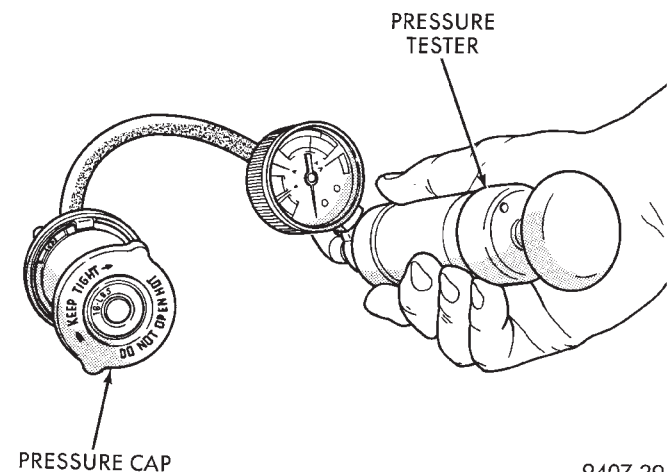

Fig. 14 Pressure Testing Radiator Cap
(3) Disconnect the hydraulic line from the weld stud clips (Fig. 14).
(4) Connect the hydraulic line to the weld stud clips in the engine compartment (Fig. 14).
(5) Connect the quick connect coupling. Refer to the “Quick Connect Coupling” removal and installation procedure in this section.
(6) Install the self-retaining snap-on bushing into the master cylinder pushrod, if necessary.
(7) Install the master cylinder pushrod with self-retaining snap-on bushing onto the clutch pedal pin by pressing it onto the clutch pedal pin until seats in the groove of the clutch pedal pin.
2. Remove the nut and washer assemblies (2) retaining the slave cylinder and mounting bracket assembly to the transaxle (Fig. 14).
If the pressure cap tests properly while positioned on Radiator Pressure Tool (Fig. 14), but will not hold pressure or vacuum when positioned on the radiator. Inspect the radiator filler neck and cap top gasket for irregularities that may prevent the cap from sealing properly.